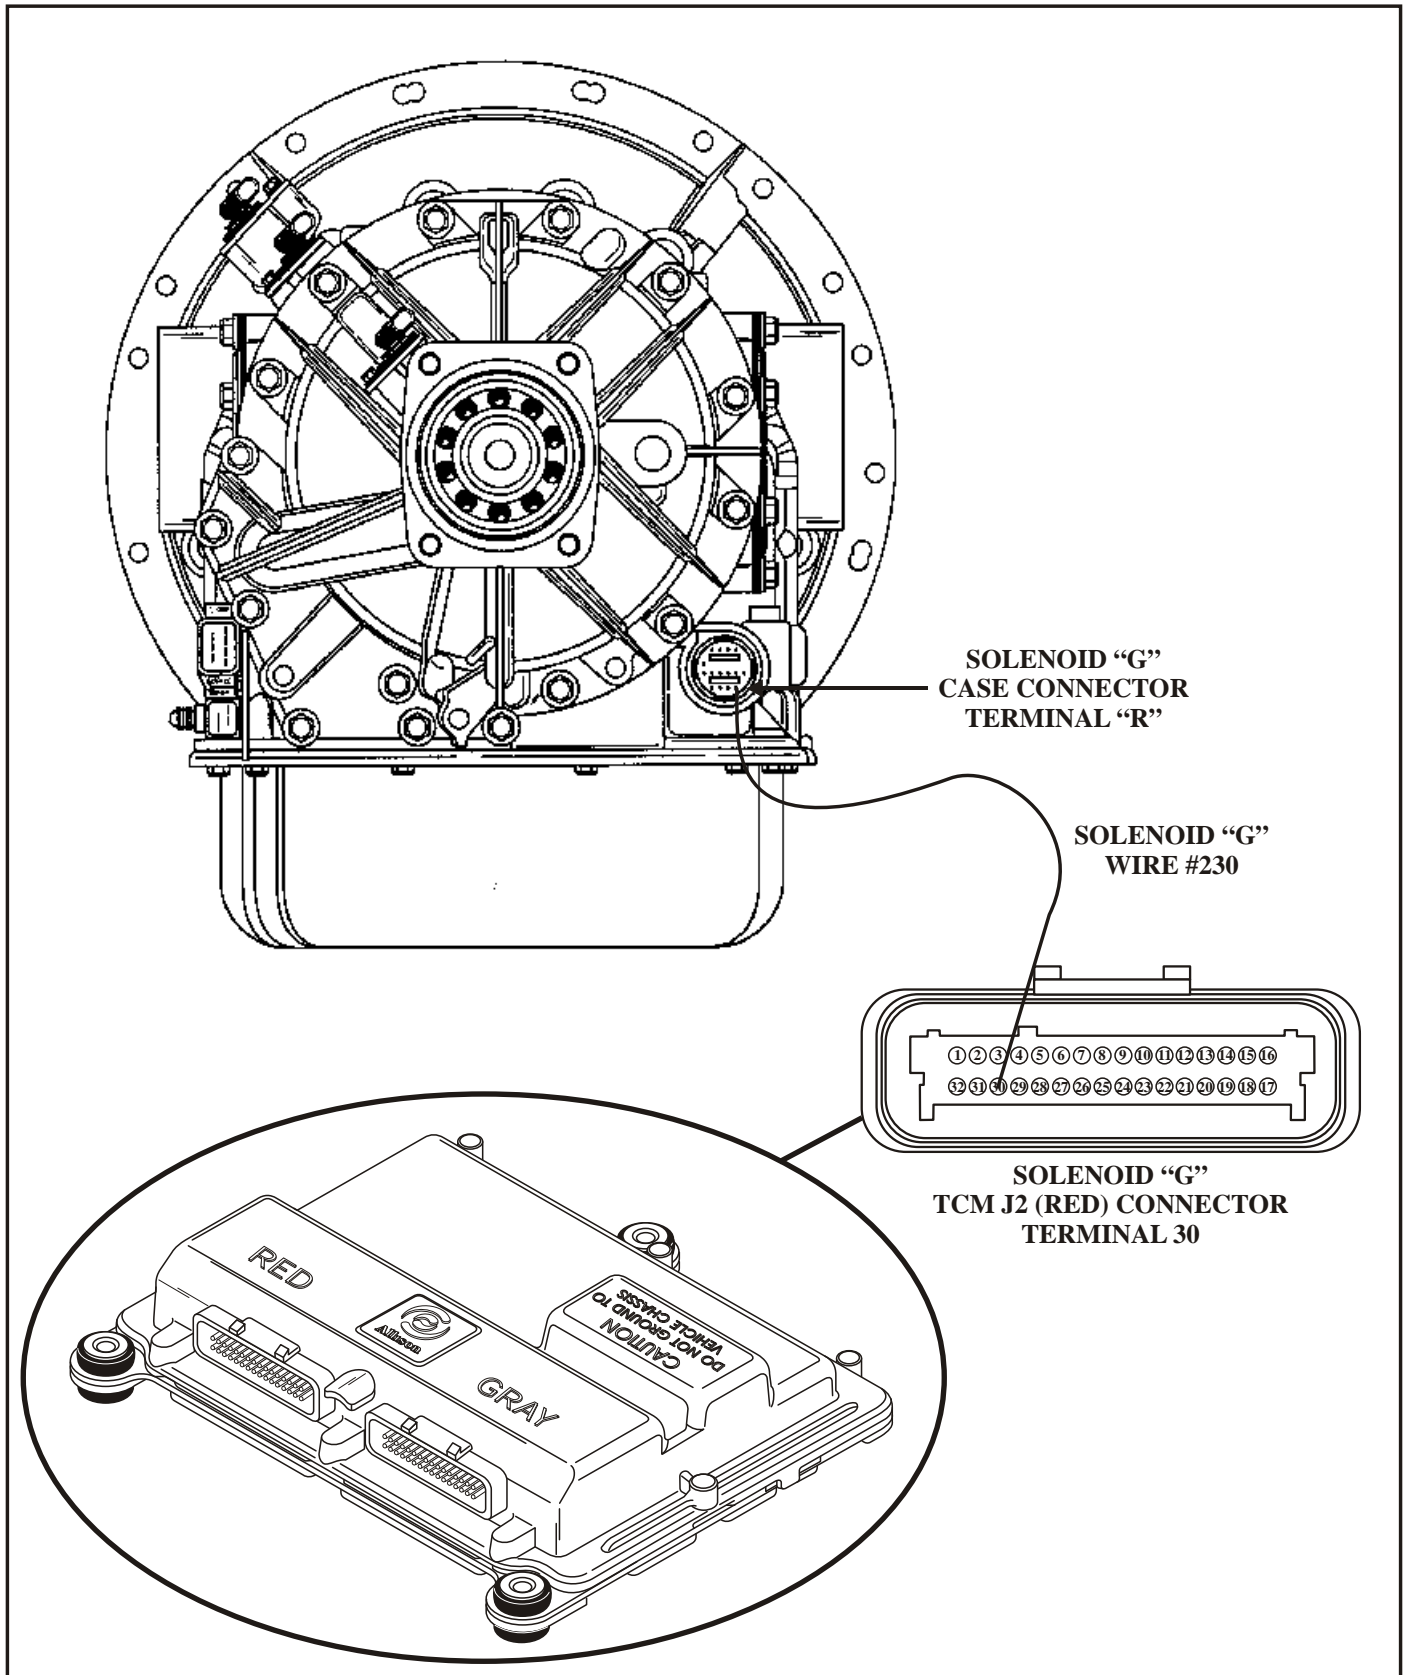

Figure 10
- (8)This feature also includes the addition of Solenoid "G" as well as the additional circuitry from case connector terminal "R" to the "J2" (RED) TCM connector at terminal 30 as shown in Figure 10.
- (9)The basic Seal and Gasket Kit have also changed, (Not shown).
- (10)Six (6) new gold colored bolts (65mm x 1.0 mm) will be required if this feature is back servicing a transmission that did have the Modulated Main Line Pressure feature previously, (Not shown).
- (11)The availability of Version "DEE" software will be required for this feature to be automatically recognized by the Transmission Control Module.